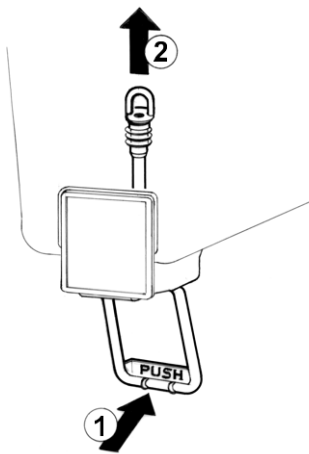

figure 3
5. Pinch tube faucet: push the dispensing handle (1) and take the pinch tube off from its seat (2) (see figure 3).